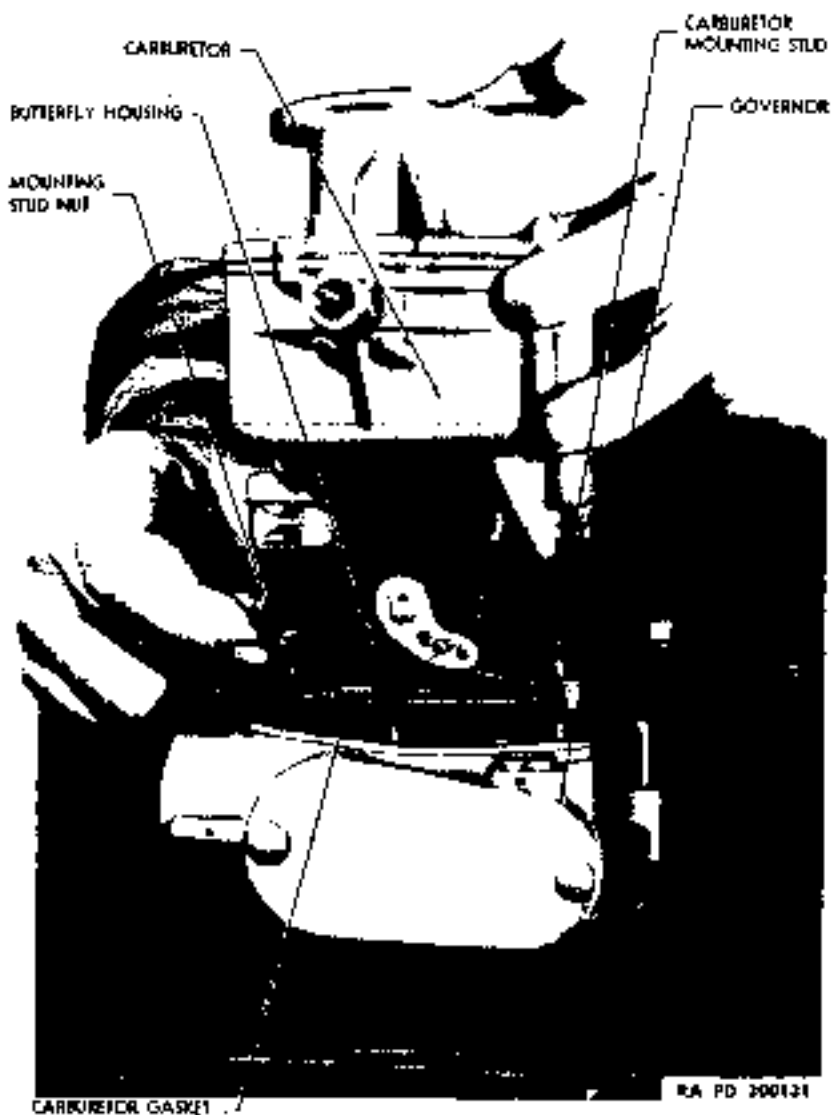

Figure 37—Removing Carburetor Assembly
c. **Remove Carburetor.** Remove air cleaner from carburetor (par. 75 a). Disconnect carburetor controls (par. 72). Disconnect fuel pump to carburetor line at carburetor. Loosen two stud nuts that hold carburetor to governor assembly. Remove front stud nut first, then while elevating carburetor assembly (fig. 37) remove the rear stud nut.
d. Install Carburetor. Place carburetor gasket in position on carburetor mounting studs and place carburetor assembly in position over gasket. While holding carburetor in elevated position (fig. 37)